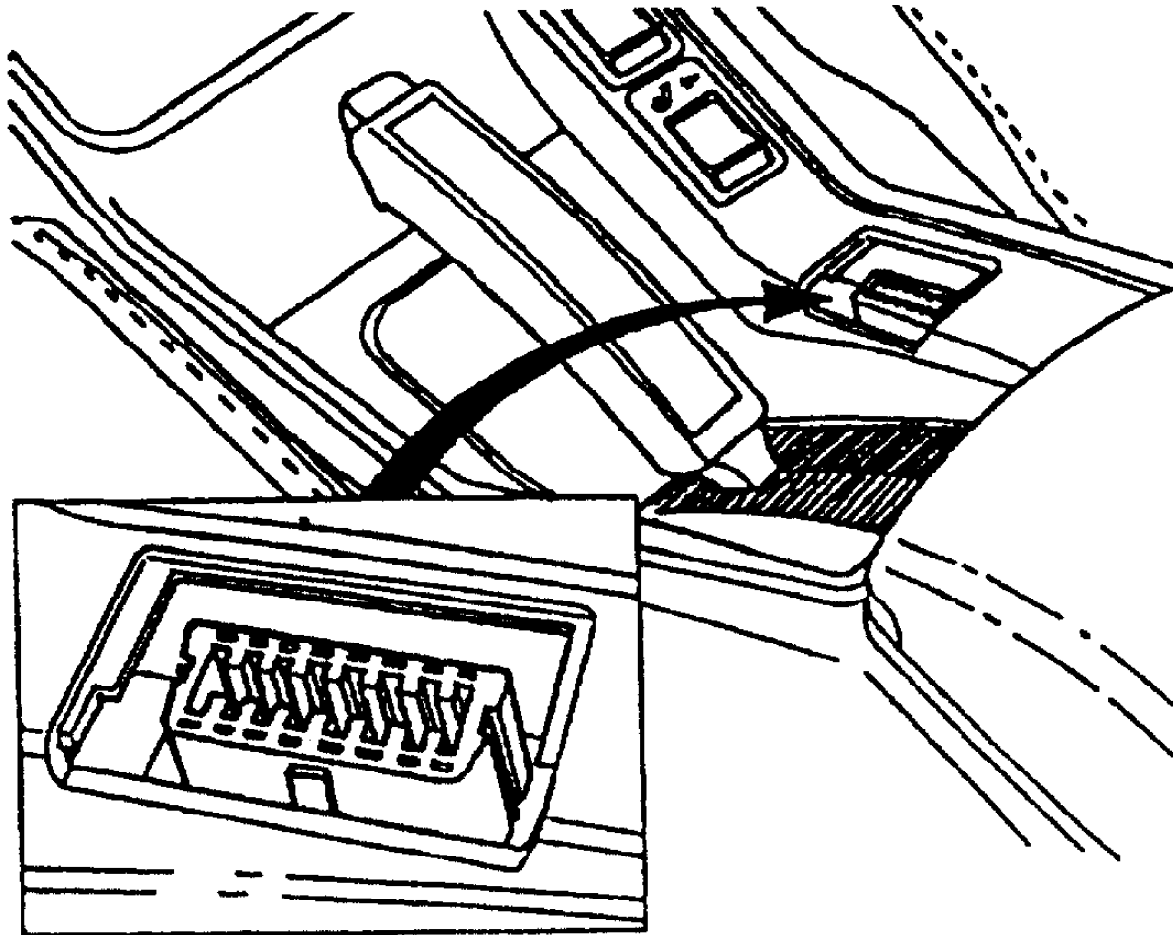

Fig. 3: OBD II Diagnostic Link Connector Location (1996)
- 4) TO MANUALLY RELEASE gear selector, push finger between brushes at base of shifter and push catch forward. (See Fig. 3).